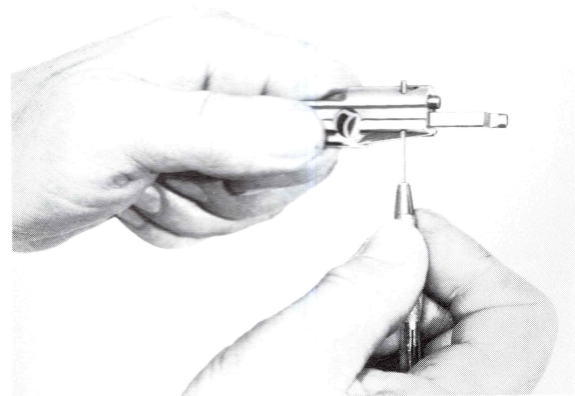

Fig. 14
- Press out the clamping sleeve (13) (Fig. 14).